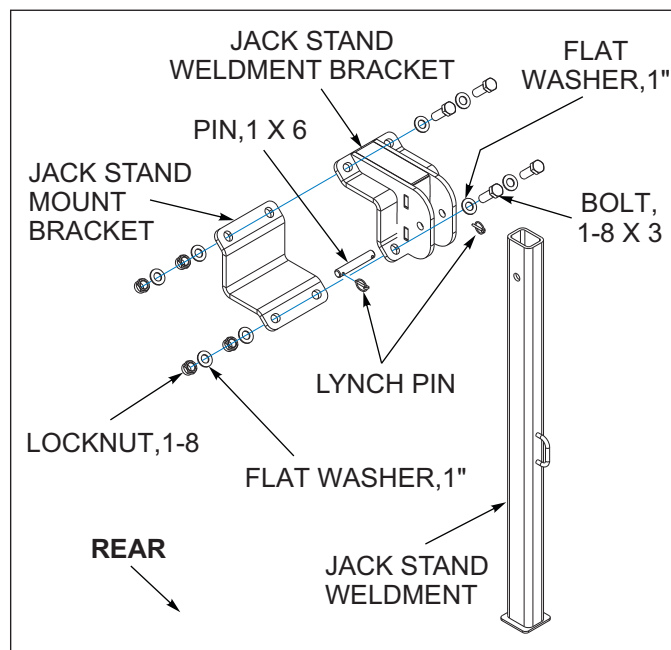

Figure 3-2: Rear Jack Stand
1. With the Jack Stand Mount Bracket positioned on the bottom side of the rear Frame, attach the Jack Stand Weldment Bracket (with the clamp facing out), using 1-8 x 3 Bolts, 1" Flat Washers and 1-8 Locknuts. (See Figure 3-2.)